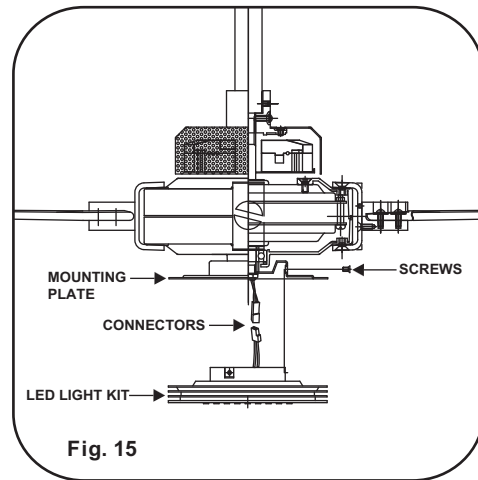

Fig. 15
Step 3. Carefully tuck all wire connections back into the LED light kit, then install the LED light kit onto the mounting plate with 3 screws previously removed. Be sure to tighten all screws. (Fig. 15)